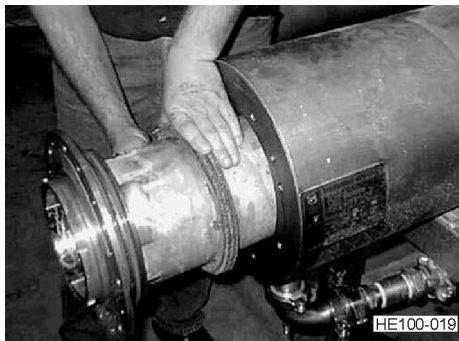

Figure 48 - Tube Removal
8. Pull the tube out of the jacket. Take care to avoid marring the jacket cylinder during heat transfer tube removal. Mark the tube and jacket so that the tube can be reinstalled in the same jacket. See Figure 48. On liquid units, install a new packing ring.